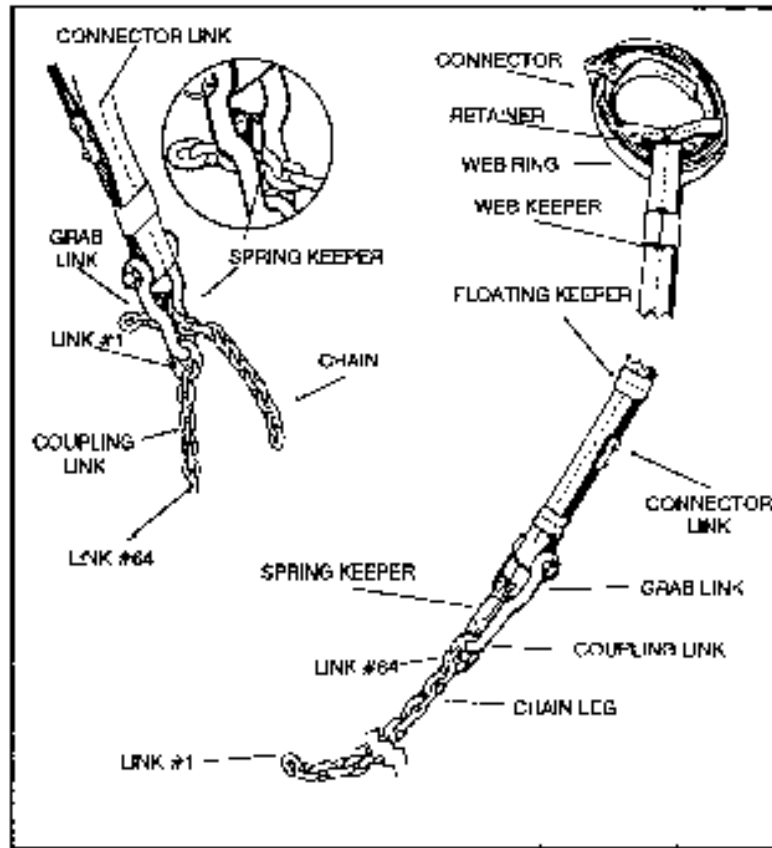

Figure 5-3. Parts of the multi-leg sling set
e. **15,000-Pound Capacity, Multi-Leg Sling Set.** The nylon and chain multi-leg sling set has an overall length of 23 feet and a rated capacity of 15,000 pounds. It weighs 94 pounds complete. It includes a 12-inch nylon web ring, consisting of seven thicknesses of nylon webbing secured with a connector link, four 15-foot nylon slings, a 10-inch grab link assembly with coupling link (each leg), and a 6-foot chain (each leg) with 64 links (Figure 5-3). Each component of the multi-leg chain set has a rated capacity of 5,560 pounds when used as a pendant. When inspecting the multi-leg chain set, inspect all metal and nylon items as per paragraph 5-6d; inspect the connector link; inspect the gate of the grab link